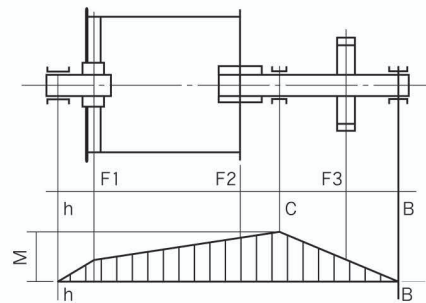

Fig. 3
4. In case of a single drum drive with rigid connection of gear shaft and drum, (see fig.3) a given load F and bending or alignment error will produce a max. bending moment at the end of the gear shaft and of M .